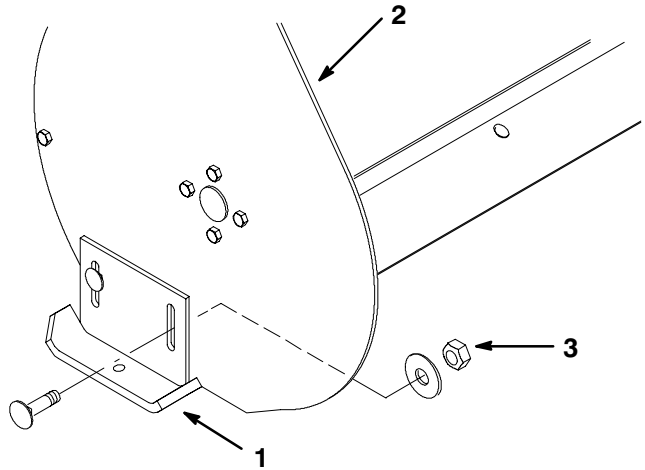

Figure 39
4. Raise or lower the skids equally on both sides to obtain level scraping action, and tighten nuts securely (Fig. 39).
3. Loosen the nuts securing the skids to the housing until the skids slide up and down easily (Fig. 39).